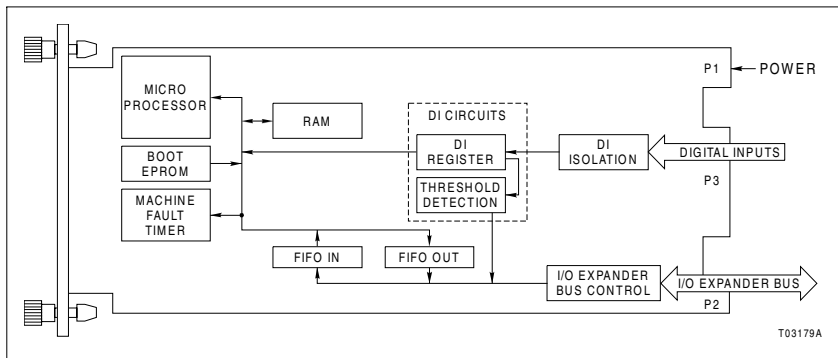

Figure 2-2. IMSED01 Block Diagram
- In sequence of events mode all digital inputs are acquired every millisecond and compared to the previous value. If there is a change in one or more inputs, the new status is stored internally and placed in a FIFO\_out buffer (Fig. 2-2), with its own time-stamp.
IMSED01 module operations are controlled by a microprocessor (Fig. 2-2). The module also contains devices for the management of I/O operations (I/O expander bus control, DI isolation, DI circuits), and microprocessor auxiliary devices (boot EPROM, RAM, machine fault timer, FIFO\_in and FIFO\_out).